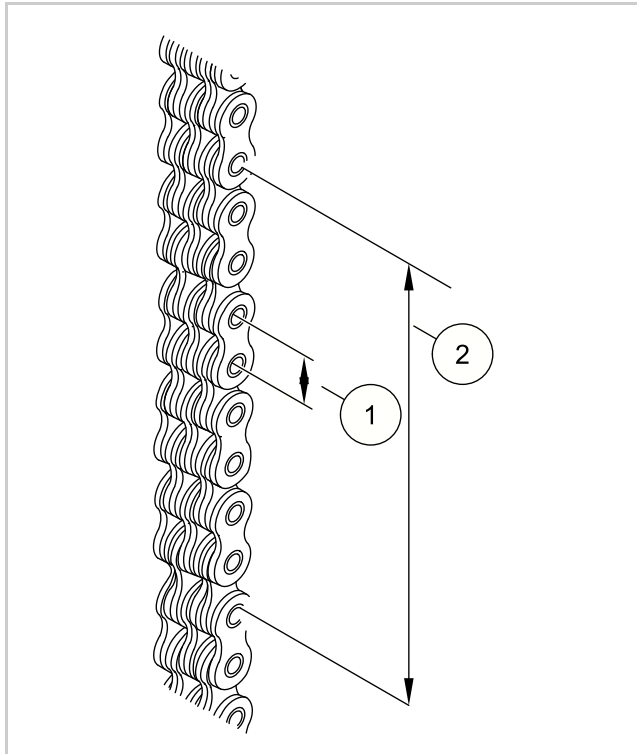

Fig. 3 (33492)
3. See Figure 3. Measure the lift chain pitch (1) from the center of the center of two chain pins of an outer plate.
2. See Figure 3. Measure the length (2) from the center of the first chain pin to the center of the last chain pin.